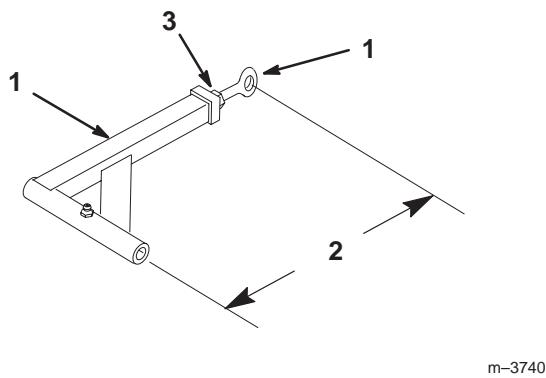

Figure 55
9. If the fixed idler contacts the end of the adjustment slot and more belt tension is required, a small change in the lengthen the push arms can be made (Fig. 55).
10. To adjust push arms, loosen jam nut and rotate ball joint counterclockwise, one turn at a time. Adjust each side the same amount (Fig. 55).